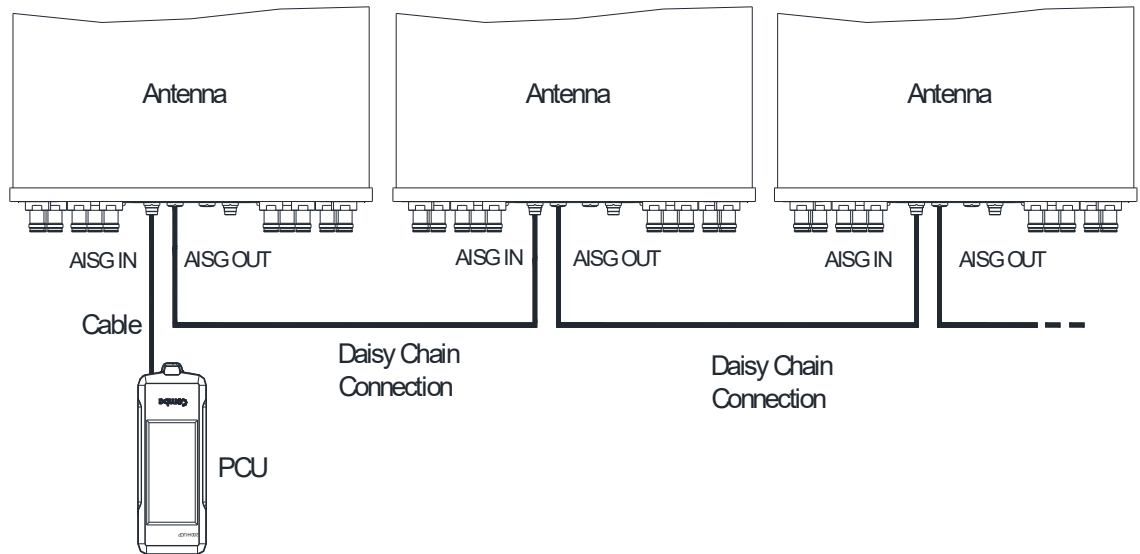

Figure 5 Multiple MIRCU Daisy-Chain Cascade Schematic Diagram
- d) If there is more than one MIRCU need to be connect, daisy-chained cascade method can be used as show in Figure 5.